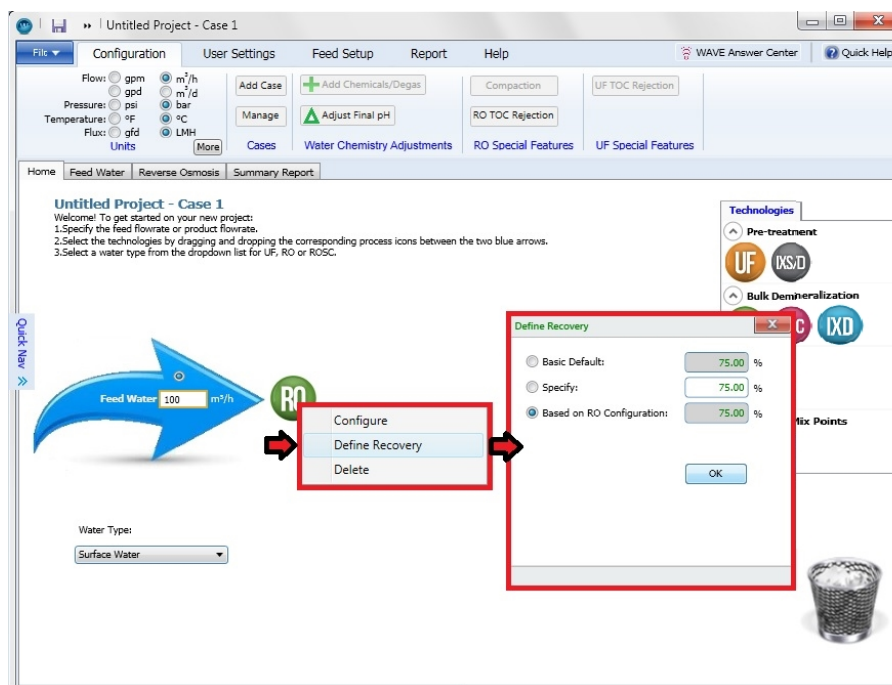

Figure 119. Definition of recovery for an RO/ROSC system in the Home page
- WAVE does give the user the possibility of defining a recovery that defines feed/product flow if product/feed flow is known (shown in Figure 119).